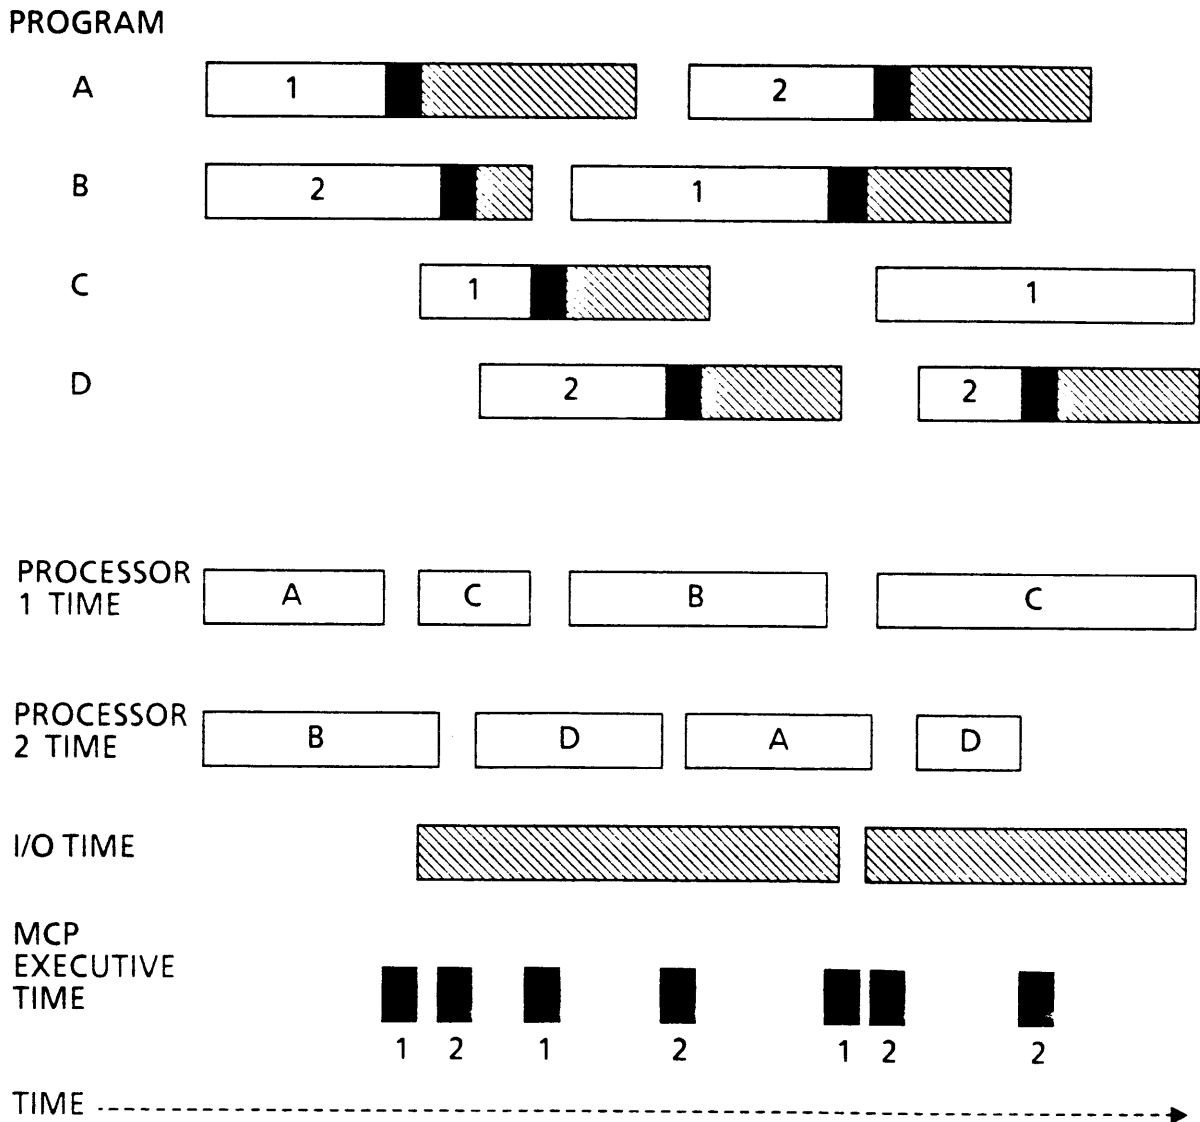

Figure 5-4 Multiprocessing
**Multiprocessing** occurs when 2 or more CPUs are under the control of a single MCP. It allows multiple programs to execute at the same time, by executing 1 program in each processor. Multiprocessing also involves multiprogramming in each processor, as shown in Figure 5-4.
The A 3 model K includes 2 processors. The system can multiprocess, with both processors controlled by the same MCP, as shown in Figure 5-4. The A 3 K can also be used as a single processor system, but cannot be split into 2 independent single processor systems.
The A 10 model H is a dual processor system, which can be partitioned into 2 single processor systems under 2 separate MCPs. The A 10 can also be a **monolithic** system, a large multiprocessor system with all resources controlled by a single MCP, as in Figure 5-4.
In Multiprocessor Mode, the system multiprocesses as in Figure 5-4. This is sometimes called **tightly coupled**, because all the processors and other resources are controlled by 1 MCP, which resides in Global Memory.